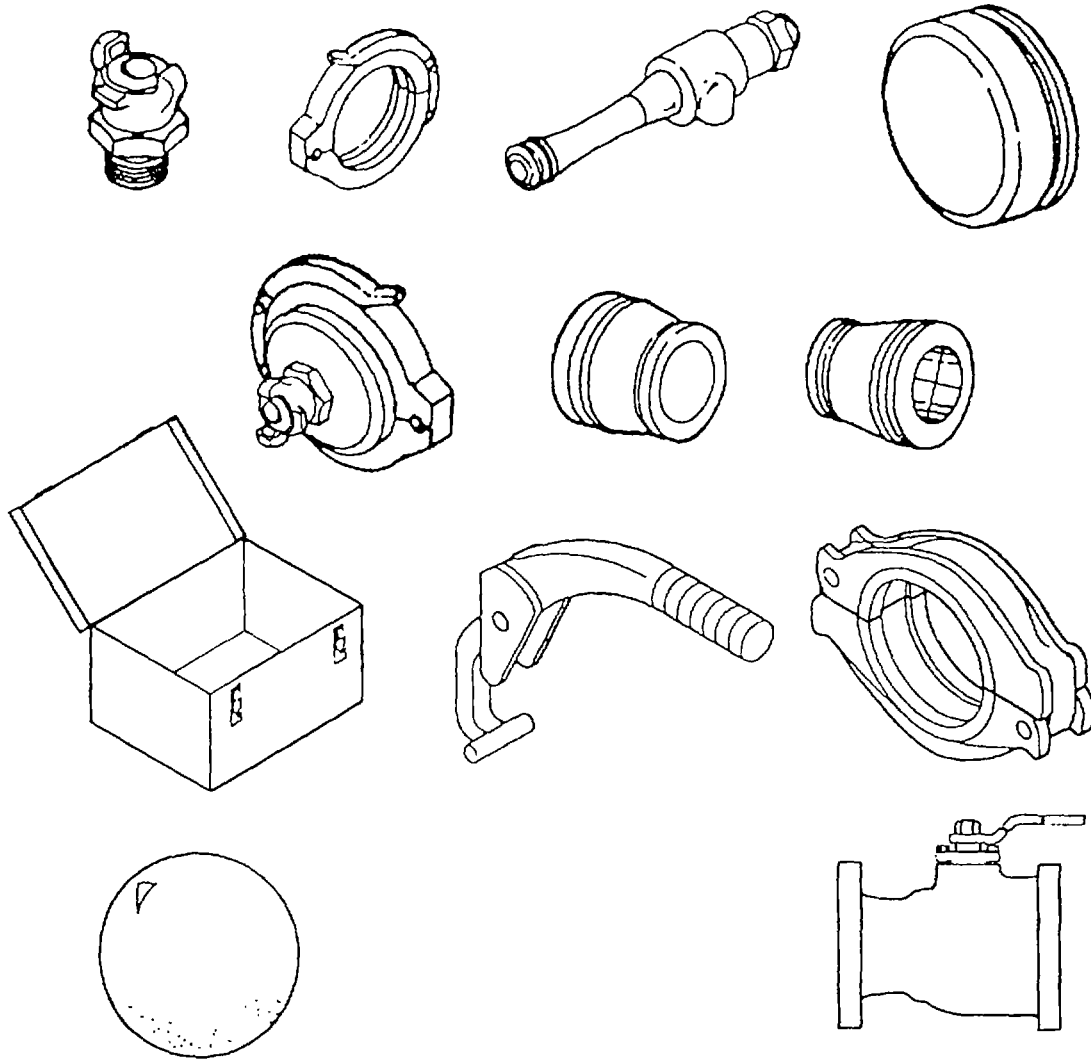

Figure 1-14. Displacement and Evacuation Kit
(17) **DISPLACEMENT AND EVACUATION KIT** (Figure 1-14). Used to remove water and air from hoses prior to repacking.